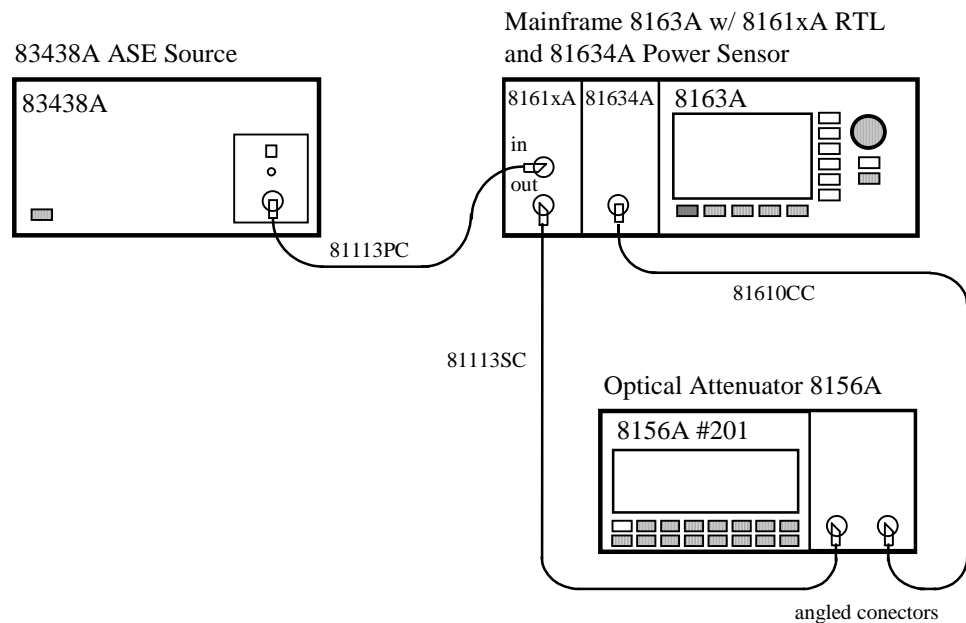

Figure 38 Relative Uncertainty of Return Loss - Performance Test Setup
- 9** Setup the equipment as shown in Figure 38. Use an optical attenuator with angled connectors, and connect the angled connector of the 81610CC Reference Cable to the output of the attenuator.